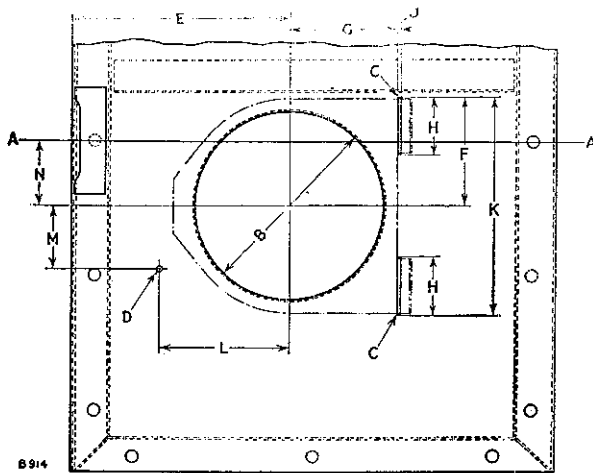

Fig. T-3—
7. Mark out and cut one hole 7 in. (177,8 mm) diameter and two slots $\frac{1}{8}$ in. (3,17 mm) wide and $2\frac{1}{16}$ in. (52,38 mm) long, and drill one hole .204 in. (5,18 mm) diameter in the panel as illustrated in Fig. T-3.